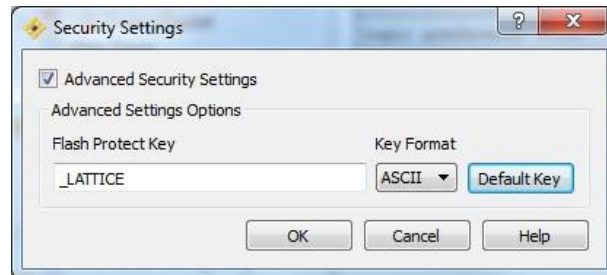

Figure 3.3. Security Settings Dialog Box
3. The Security Settings dialog opens for you to specify the device Flash Protect Key as shown in Figure 3.3. Ensure that the Advanced Security Settings checkbox is marked. A default Flash Protect Key is provided. For enhanced security, change the Flash Protect Key. The Flash Protect Key is a 64-bit binary value. For convenience, the key can be specified in ASCII (8-character max), HEX (16-digit max), or Binary formats. After entering the Flash Protect Key, click **OK**.